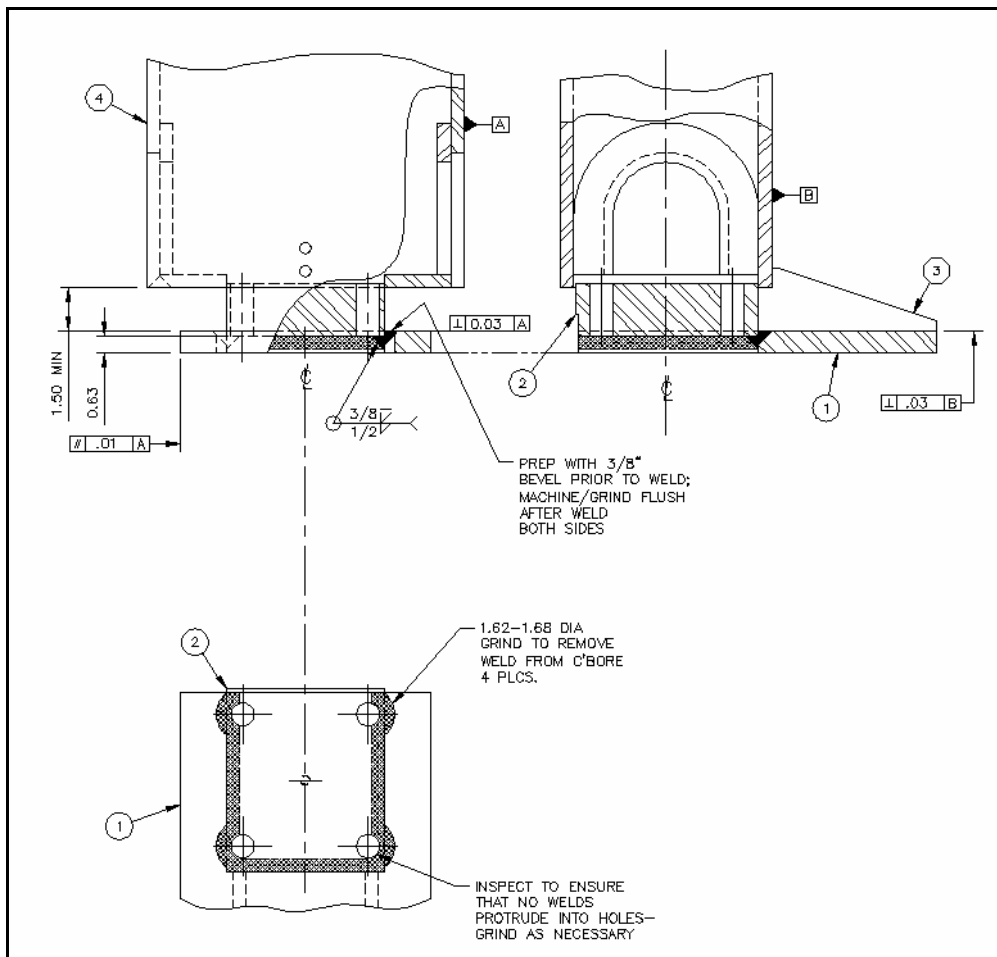
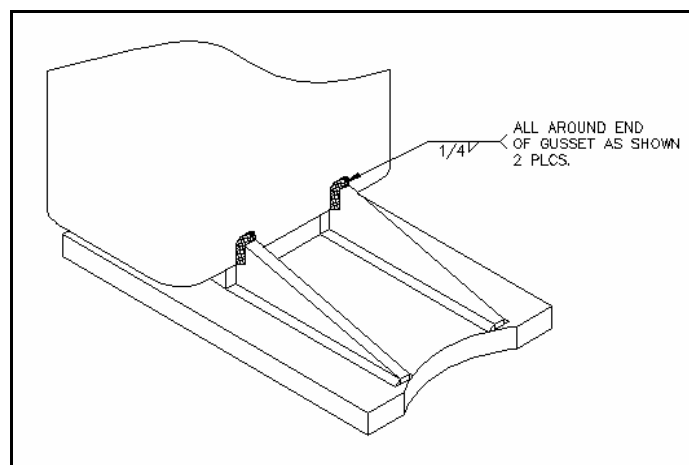

Figure 3: Welding of Slide's Bottom Plate
Figure 4: Gusset Weld
4. The top side of the bottom plate must be prepped as shown on the drawing in figure 3 of this procedure.
5. Prior to any welding, make sure that the Slide's bottom plate (1) is SQUARE to the sides of the inner tube (4) to within 0.03 inch and verify that the distance from the top of the bottom plate to the bottom side of the inner tube is 1.50 inches minimum as shown in figure 3. If tolerances were not met, correct as necessary. The welds around the top of the Slide gussets (where welded to the lower end of the inner tube) may have to be ground and removed to allow for better Slide flexibility. For illustration of the gusset (3) welds, see figure 4. If tolerances can not be achieved, replace the inner tube/slide assembly, otherwise proceed to step 6.
10. Grind excess weld from the counter bore areas on the bottom plate as shown above in figure 3 to allow enough room for the rod nut socket.
1. Remove the existing fillet weld around the top of the gussets (3) where they are attached to the lower end of the inner tube (4) using grinding or gouging method. It is essential that the cracks are completely removed.
3. Make a 1/4” fillet weld around the top end of each gusset where it attaches to the end of the inner tube as shown in figure 4. Use Low Hydrogen E7018-3/32” or E7018-1/8” welding rods or equivalent (see Notes).